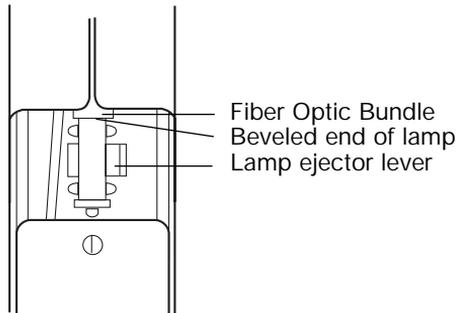

Figure 1
4. Depress the blue lamp ejector lever (see Figure 1 below). The lamp will pop up.
2. Rest lamp on lamp holder bracket with beveled end of lamp toward fiber optic bundle (see Figure 1 above).